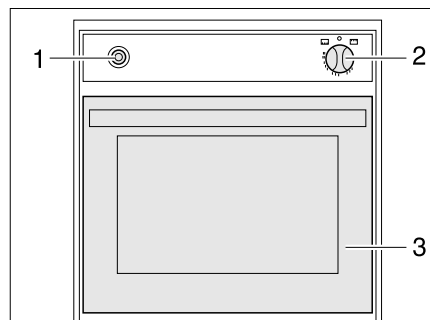

Fig. 324 Gas oven (Spinflo)
- Fully open the oven flap (Fig. 324,3).
- Lightly press control knob (Fig. 324,2) and set to "🔥" (oven) or "🔥 GRILL" (grill).
- Press the control knob (Fig. 324,2) and hold it down for 5 to 10 seconds. Gas will stream into the burner.
- Press the ignition switch (Fig. 324,1) repeatedly until there is a flame.
- Turn the control knob (Fig. 324,2) to "0". The flame fades.